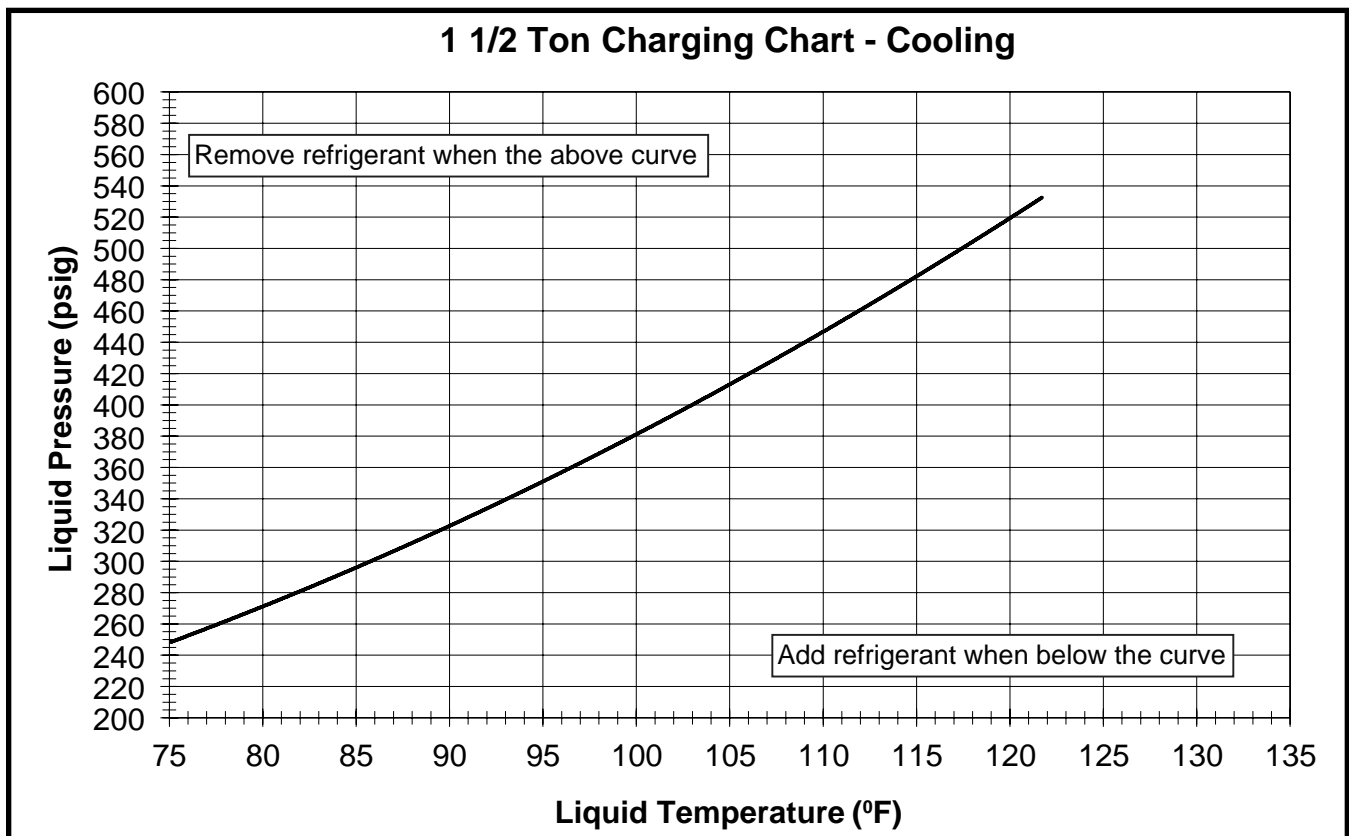

Figure 5. Charging Chart for 1.5 Ton Units (TXV Matches)
- Cooling mode charging charts are applicable only to matched assemblies of this equipment and listed airflows for the indoor coil. Outdoor units with non-AHRI listed indoor coils are not recommended and deviations from rated airflows or non-listed combinations may require modification to the expansion device and refrigerant charging procedures for proper and efficient system operation. Refer to Figures 5 - 11 (pages 10 - 13) and Tables 4 - 10 (pages 15 - 16) for correct system charging.
3. Determine the required liquid refrigerant pressure from Figures 5 - 11 (pages 10 - 13).
- Charging charts are valid for a variety of indoor, return air conditions and are most influenced by the outdoor ambient temperature, outdoor fan operation and the unit operating voltage. Before using these charts, make sure the unit is in a stable operating mode. As shown in the charging charts (Figures 5 - 11, pages 10 - 13), the ideal system sub-cooling can vary over the range of operation. Reference the charts to determine the ideal amount of sub-cooling for a given liquid pressure. Units charged to other values will not perform at the rated unit efficiency (EER) or rated Coefficient of Performance (COP) in heating mode.